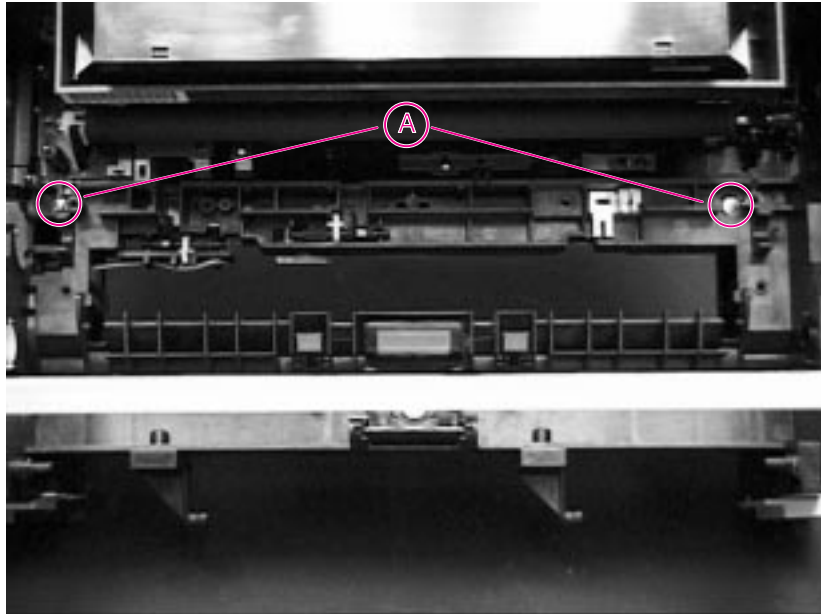

Figure 6-39 DC Controller Assembly (long screws)
- 5 Remove the two screws (A) (Figure 6-39) located at the back of the DC Controller Assembly, inside the chassis. These are long screws; their position requires the use of a magnetized screwdriver.